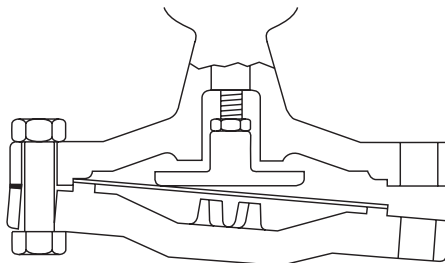

Fig. 10
3. Undo the M12 nuts and bolts (23) and drop away from the main diaphragm chamber (22) and the main diaphragm plate and pushrod assembly (25 and 26).
5. Replace main diaphragm plate and pushrod assembly (25 and 26) and loosely refit the lower diaphragm chamber (22) on the two bolts either side of the union connection, see Figure 10, so that the spigot is located into the recess. Also ensure that the connecting stainless steel pipework is located into its fitting.
6. Bring the two main diaphragms together and slide into position, first easing the diaphragm plate upwards to clear, see Figure 10.
7. With the main diaphragms in position, push the lower chamber home to locate the recess and refit the M12 nuts and bolts (23) tighten to a torque of 75 N m.